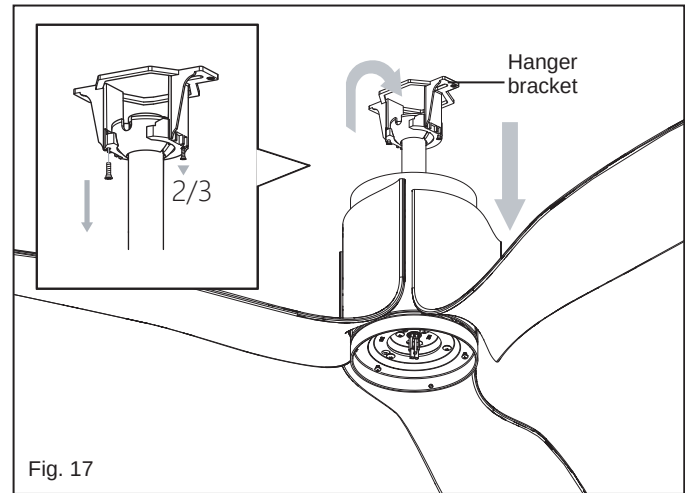

Fig. 17
- 2 Remove one screw on the bracket and loosen the other screw on the bracket. (Fig. 17)